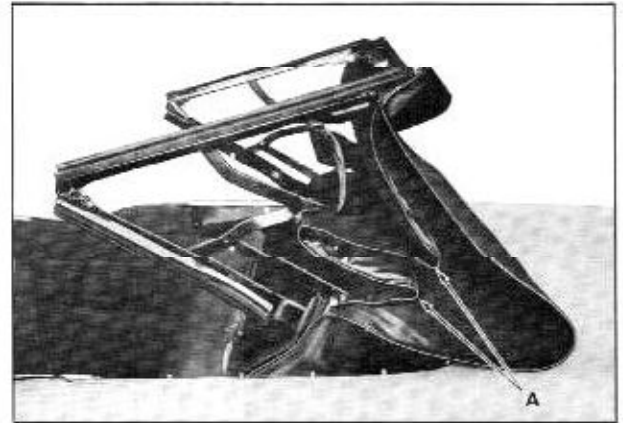

Fig. 15-67 Padding Pulled From Between Arms
6. Pull top material and padding "A" from between operating arms of top as shown in the illustration. (Fig. 15-67)